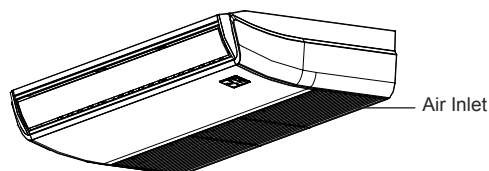

Fig. 6-1
- Open the air intake with the screwdriver or something like that. (Refer to Fig.6-1)